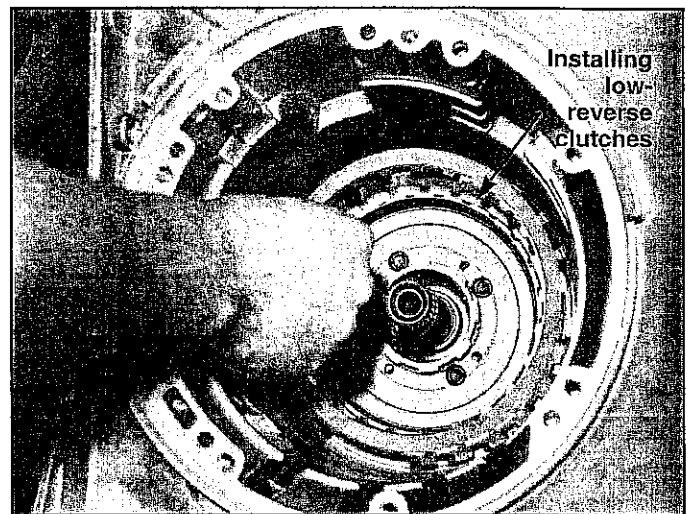

FIGURE 44
STEP 8. Soak the B&M low-reverse friction plates in automatic transmission fluid for 15 minutes. Install four or five friction discs and steel plates alternately starting with a steel plate and ending with a friction disc. (See Fig. 44)